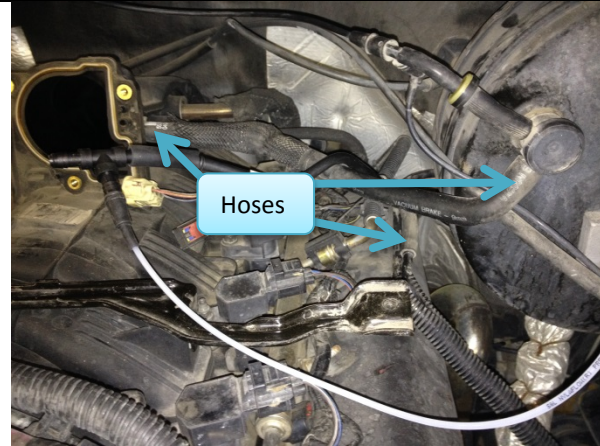

Figure 12: Vacuum hoses to disconnect.
8. Disconnect vacuum hoses at locations shown in Figure 12